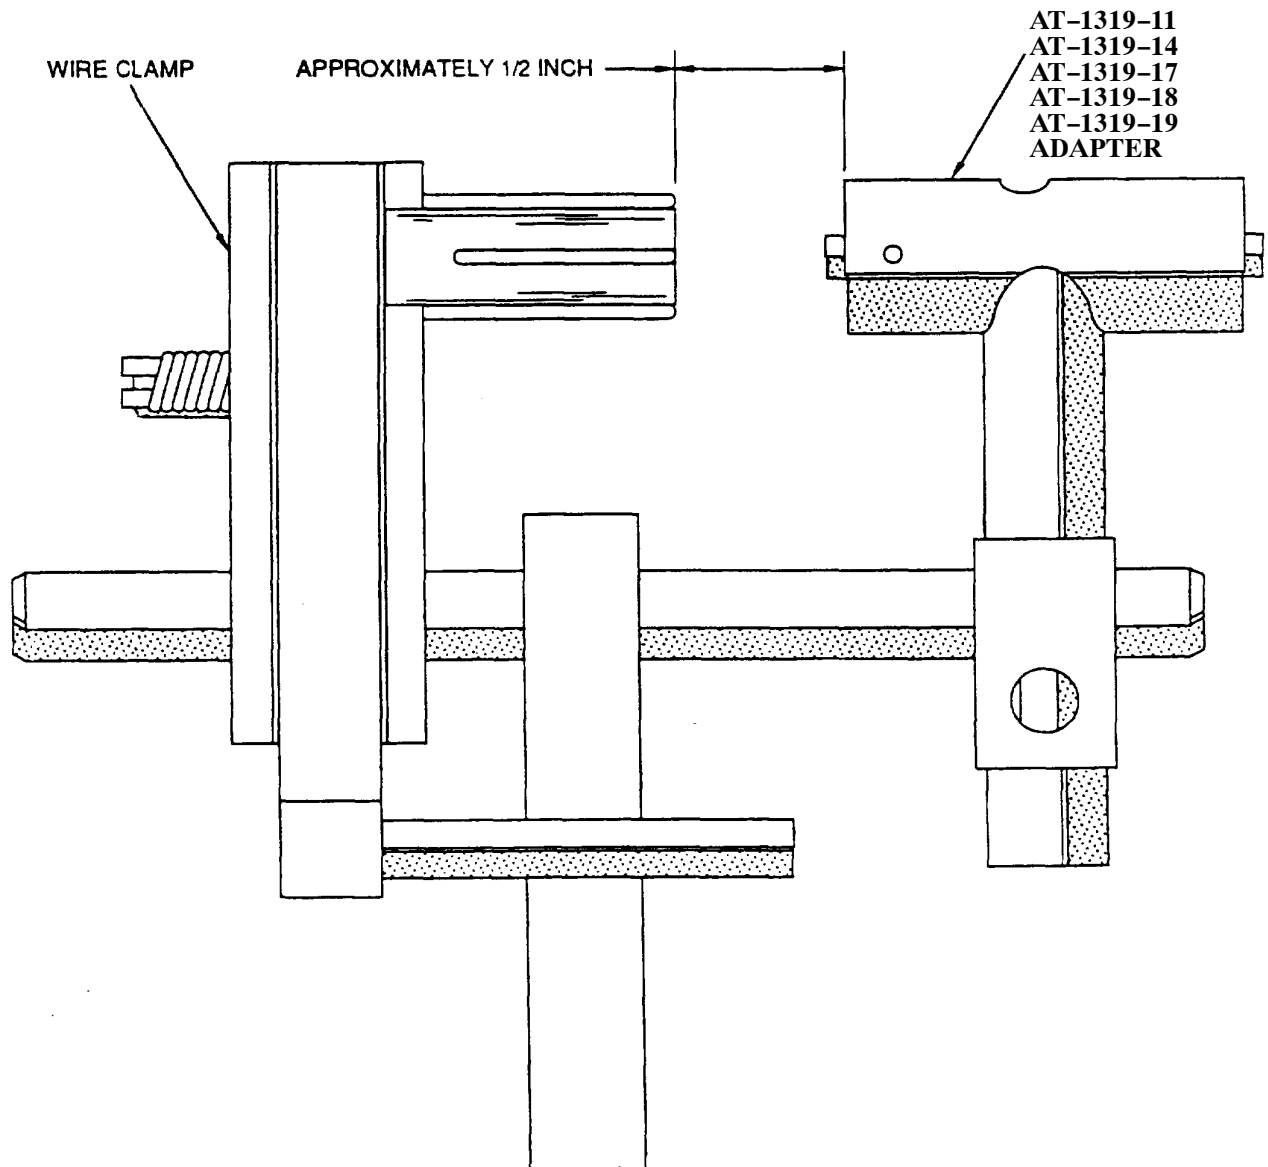

Figure 14. Holding Fixture and Adapter Setup
- b. Set up holding fixture and adapter as shown (Figure 14).